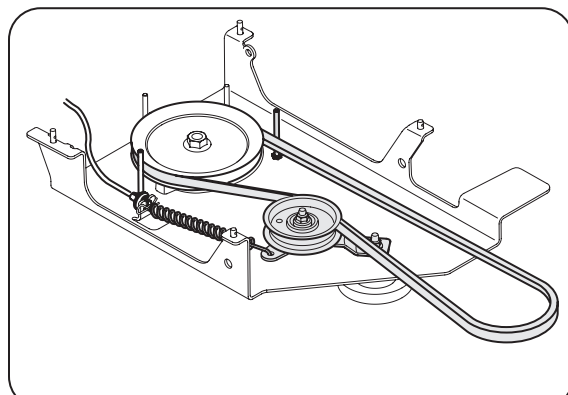

Figure 4-4
2. Refer to Figure 4-4 for correct position.